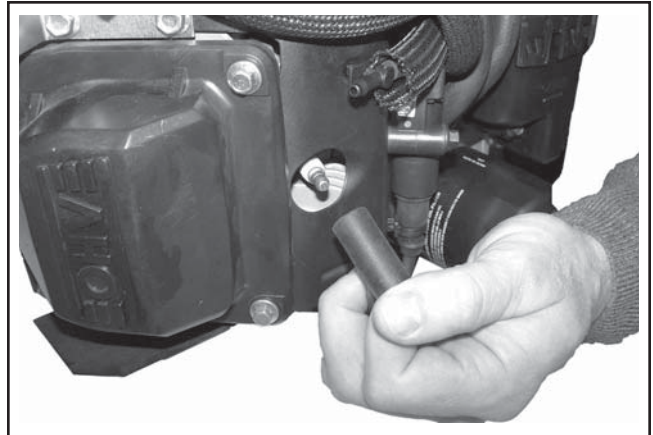

Figure 10-94. Connect Spark Plug Leads.
1. Connect the leads to the spark plugs. See Figure 10-94.